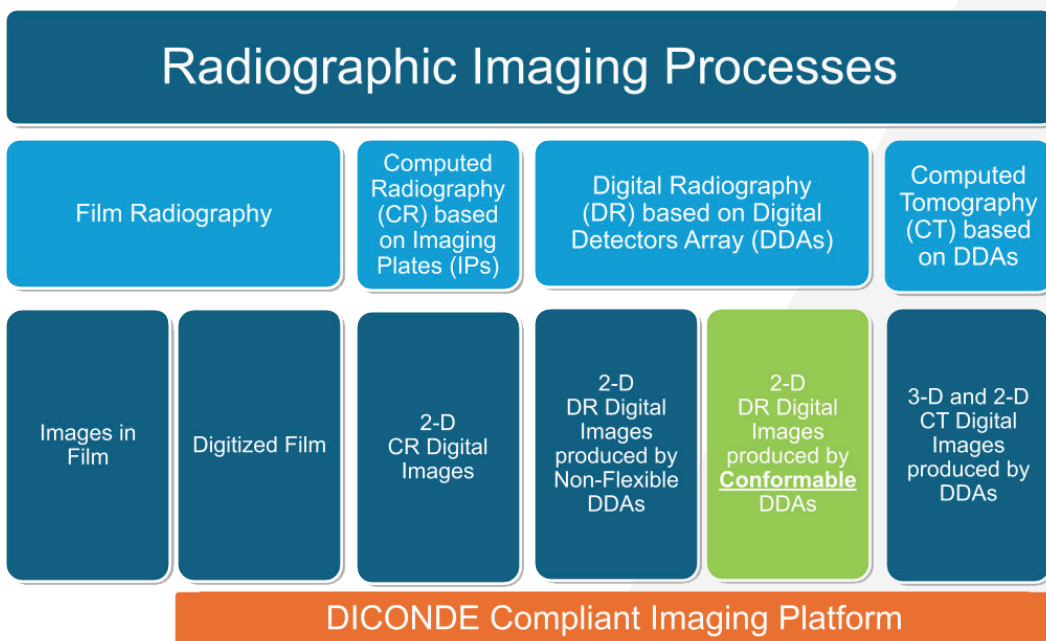

Figure 2: NDE Imaging Capabilities Ecosystem
Competitive and sustainable imaging operations must have not only a clear perspective of the constituents of its imaging ecosystem, as is shown in Figure 2, but also of the role that any supporting imaging software platform should have to streamline the capture, analysis, transmission, storage and preservation of trustworthy images. A vendor-independent DICOM-compliant imaging platform shall ensure technological advancements in imaging media, hardware, and software create a positive syngenetic effect on the rest of the constituents of the imaging ecosystem; here the importance of establishing a proper alignment between the adoption of advancements in recording media technology, imaging platforms, and the technical requirements integrated into codes and regulations.
- A.** As an initial step in this stage, it will be interesting to make a list of the components and assemblies within the scope of your work that require radiographic imaging processes based on the options integrated in Figure 2.